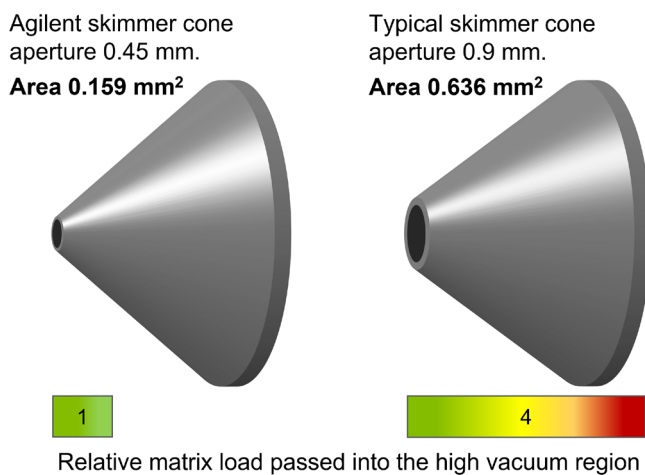

Figure 2. A skimmer cone with a 2x larger diameter aperture allows 4x more sample matrix to enter the high vacuum region.
It is a common misconception that larger interface cone apertures prevent matrix deposition and so reduce signal drift. In reality, matrix deposition on the interface cones is mainly controlled by the robustness of the plasma (2). On an ICP-MS system with poor plasma robustness (CeO/Ce ratio >0.02, or 2%), a larger cone orifice might be necessary to delay the cone clogging that causes signal drift. But the larger cone aperture will also allow more of the undissociated matrix to pass through the interface and enter the high vacuum region, as shown in Figure 2.